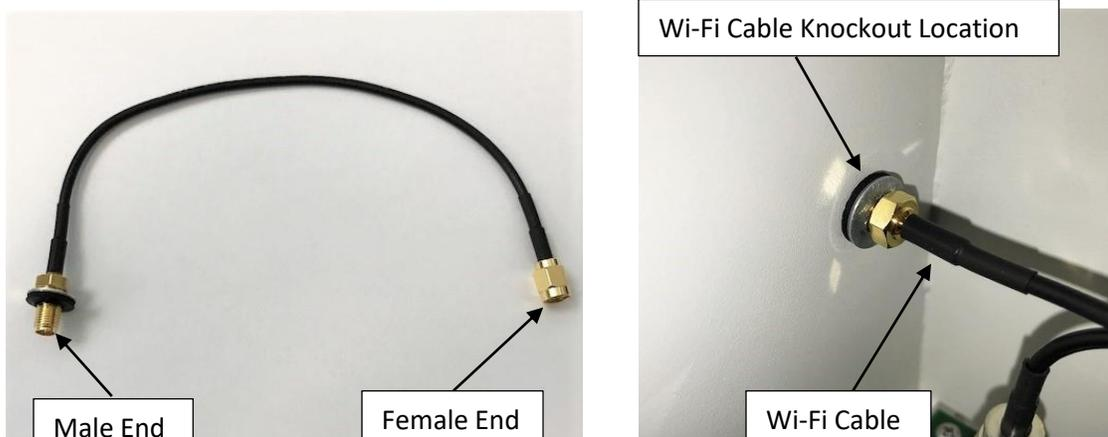

Fig 5
3. From inside the enclosure of the controller, route the male end of the Wi-Fi cable through the knockout on the side of the enclosure (Fig. 5).